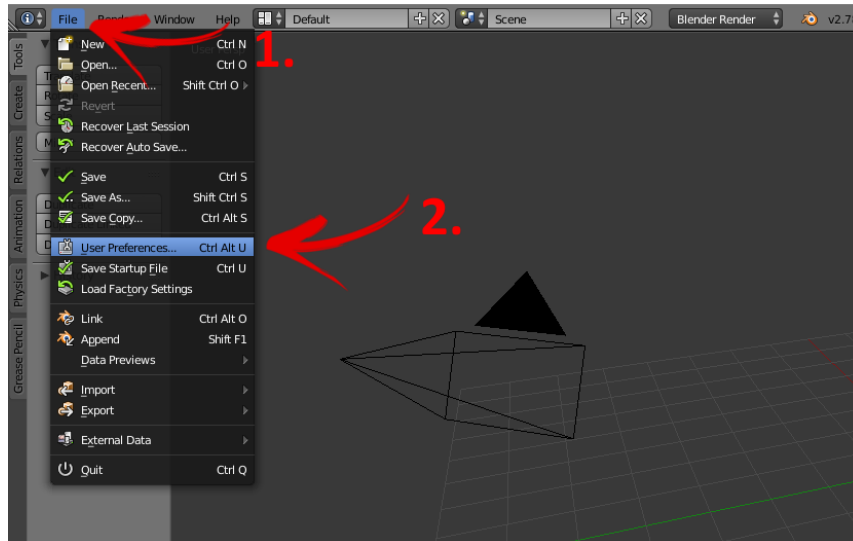

Figure 5
3. In the User Preferences window (Figure 5) activate “Add-ons” (1.) and then click on “Install from File” (2.)